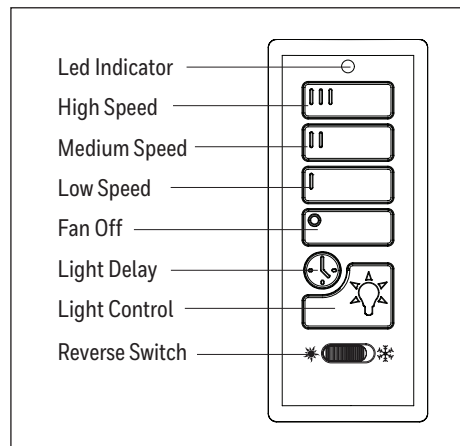

Figure 5.2
2. To operate the fan using the remote from remote pack, press and release the following buttons (Figure 5.2):